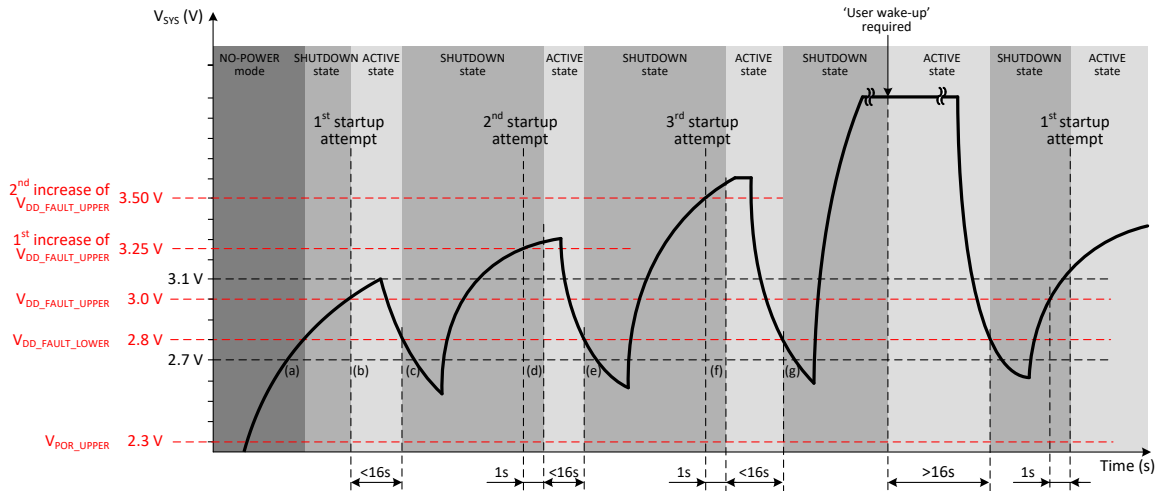

Figure 13: VDD_START Faults
The DA9063L V_{DD_START} feature prevents endless looping of false-starts in a weakly-powered system. V_{DD_START} limits the number of automatic restart attempts to three. With reference to Figure 13:
- Figure 13(a): the PMIC starts from NO-POWER mode.
- Figure 13(b): First startup attempt. The PMIC transitions to the ACTIVE state when V_{SYS} rises above $V_{DD_FAULT_UPPER}$.
- Figure 13(c): If, during the first startup attempt, the V_{SYS} supply drops below $V_{DD_FAULT_LOWER}$ for more than 100 ms, the PMIC shuts down to the SHUTDOWN state. $V_{DD_FAULT_UPPER}$ is increased automatically by 250 mV. However, the increased $V_{DD_FAULT_UPPER}$ is limited to a maximum of 3.70 V.
- Figure 13(d): Second startup attempt. If V_{SYS} rises above the new $V_{DD_FAULT_UPPER}$ threshold, then the PMIC will power-up to the ACTIVE state.
- Figure 13(e): If, during the second startup attempt, the V_{SYS} supply drops below $V_{DD_FAULT_LOWER}$ for more than 100 ms, the PMIC shuts down to the SHUTDOWN state. $V_{DD_FAULT_UPPER}$ is increased automatically by a further 250 mV (500 mV above its original setting). However, the increased $V_{DD_FAULT_UPPER}$ is limited to a maximum of 3.70 V.
- Figure 13(f): Third startup attempt. If V_{SYS} rises above the new $V_{DD_FAULT_UPPER}$ threshold, then the PMIC will power-up to the ACTIVE state.
- **Figure 13(g):** If, during the third startup attempt, the V_{SYS} supply drops below $V_{DD_FAULT_LOWER}$ for more than 100 ms, the PMIC shuts down. From then on, `AUTO_BOOT` and wake-up from non-user events are temporarily disabled. 'User events' are defined in Table 30.